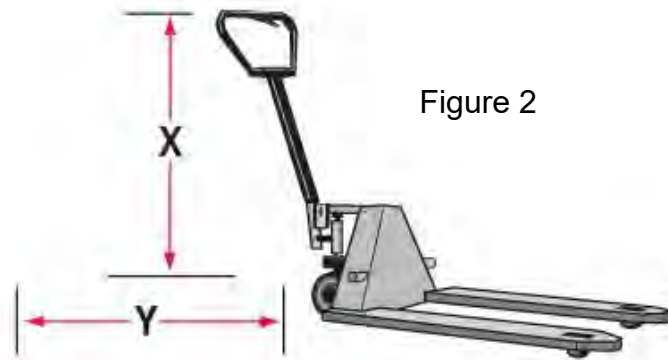

Figure 2
- Handles on pallet trucks should be long enough to prevent workers from having to bend over to push as well as maintain a separation between their feet and the wheels (Figure 2 below).
- Length of “Y” should be far enough away that the worker does not hit or bump into the cart. (Figure 2 below).